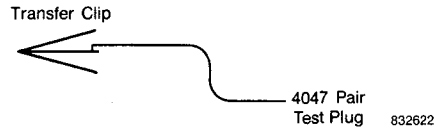

Fig. 111—Make transfer clip.
- j. Make up transfer clip with 4047 Pair Test Probe on one end. See Figure 111.